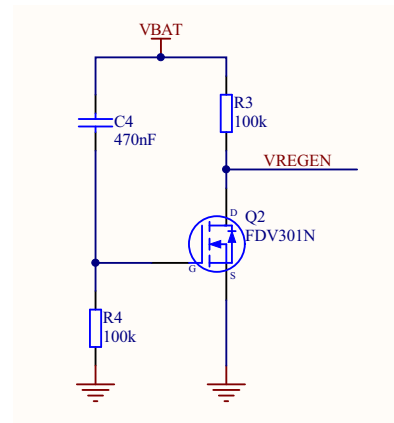

Figure 3-2: BC127 VREGEN Delay Circuit
VREGEN can be tied to VBAT but an external delay of 5 ms is required between VBAT being powered and VREGEN being asserted high. A fast-rising edge on VREGEN must be provided to enable the module, the circuit in Figure 3-2 provides this fast-rising edge to enable the module to start when VREGEN is tied to VBAT.
- VREGEN can be tied to VSUPPLY but a 5 ms external delay is required between VSUPPLY being powered and VREGEN being asserted high. A fast-rising edge on VREGEN must be provided to enable the module. The circuit in Figure 3-2 provides this fast-rising edge to enable the module to start when VREGEN is tied to VBAT(VSUPPLY).